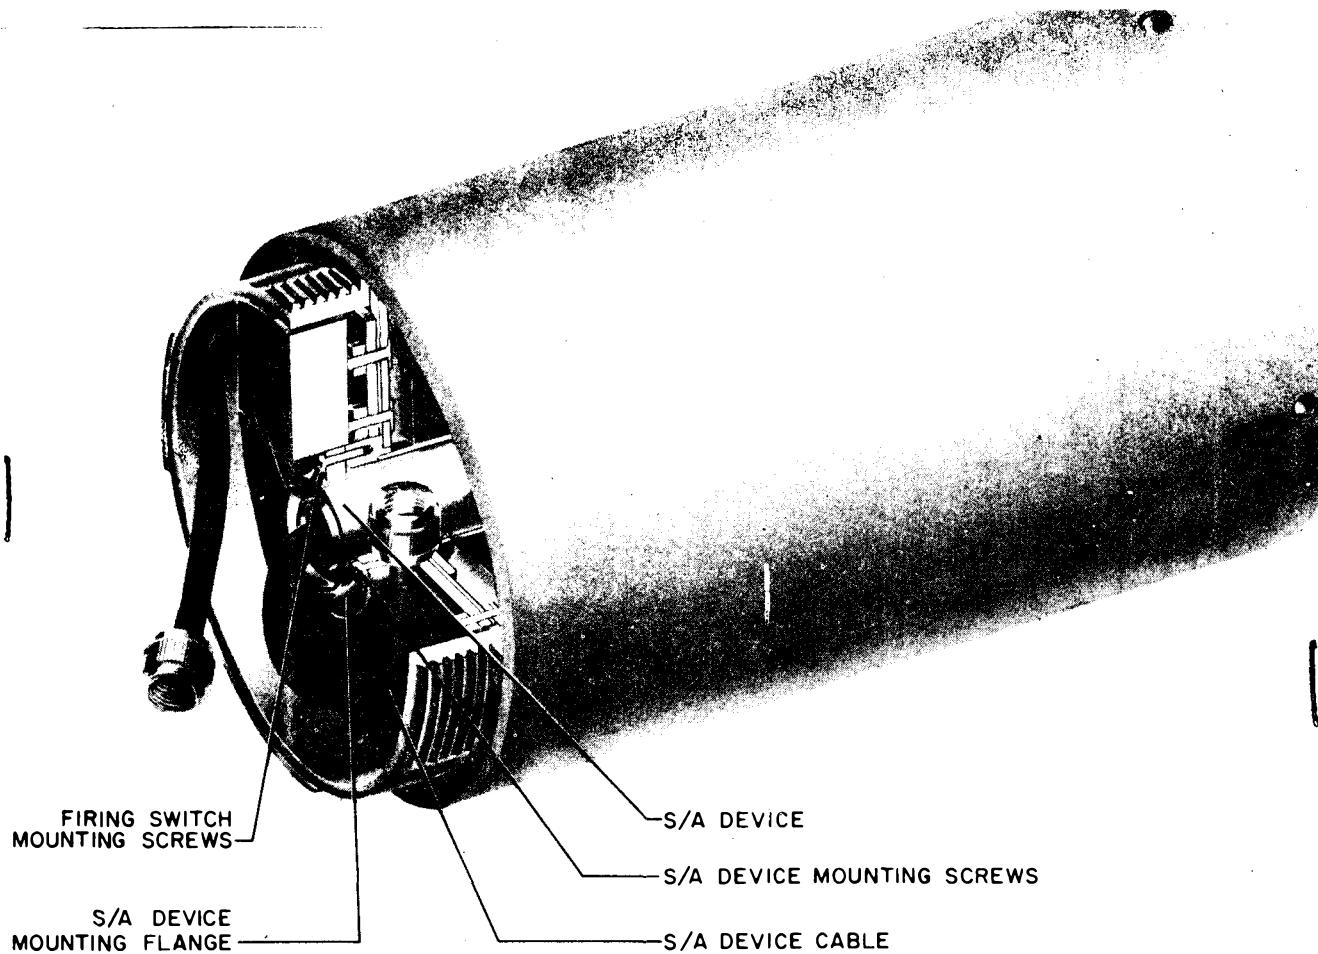
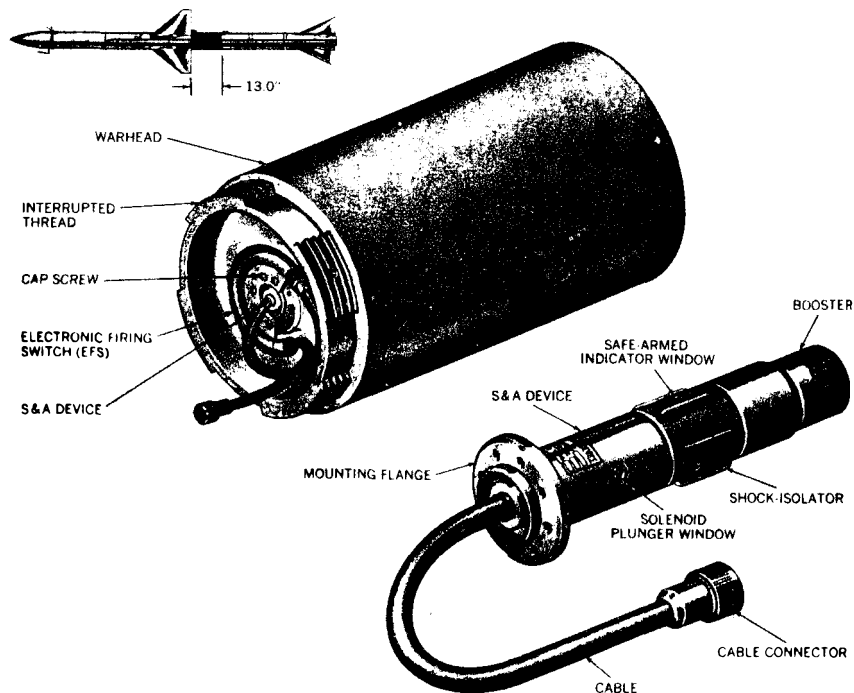

Figure 5-32. Warhead, MK18 Mod 0 and MK38 Mod 0
Figure 5-33. Typical warhead, EFS, and S and A device (U).
a. Warheads: Approximately 69 pounds (reference figure 5-32).
(1) MK 18 Mod 0: Approximately 14.5 pounds HE.
(2) MK 38 Mod 0: Approximately 20 pounds HE.
b. Safety and Arming Device (S&A) (reference figure 5-33): Detonates warhead by proximity or impact crystals in the triggering device and is located in the forward part of warhead.
(1) Booster-tetryl.
(2) Two electric detonators and two explosive leads.